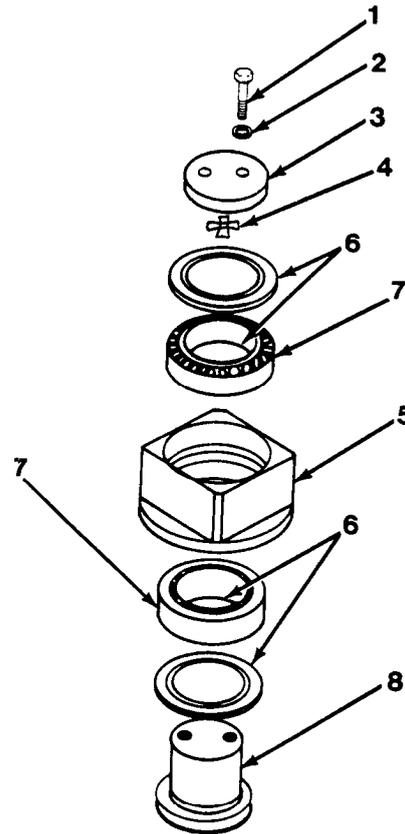

Figure 18-1
2. Install two cups (6) and one cone (7) into housing (5, Figure 18-1).
3. Install housing assembly (5) onto frame spud.
4. Install one cone (7) onto spud (8).
5. Apply Loctite 242 on threads of two capscrews (1).